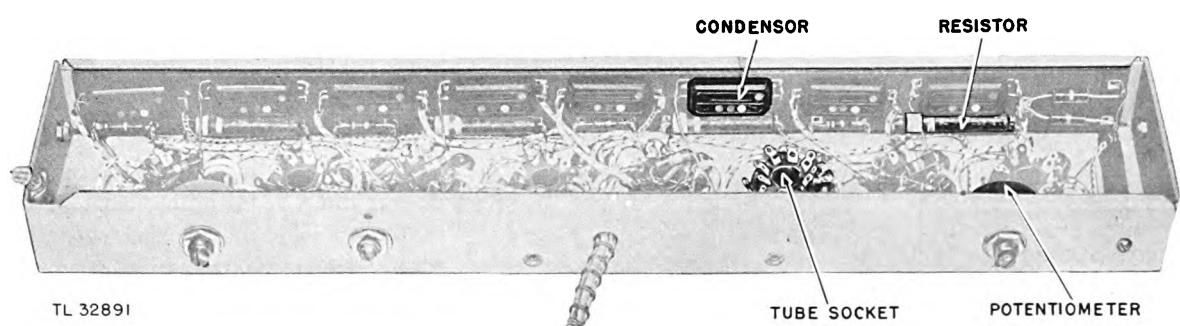

Figure 19. Indicator tube shelf, underside view.
a. *Location.* See figure 19.
- (1) PREPARATORY STEPS. Access is permitted when the indicator chassis is placed on its side.
- (2) INSPECT: